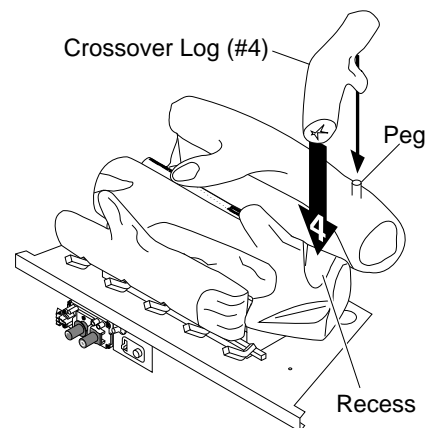

Figure 25 - Installing Crossover Log (#4)
4. Place crossover log (#4) onto the pin (right) on back log (#2) and into the recess of the middle log (#1) (see Figure 25).